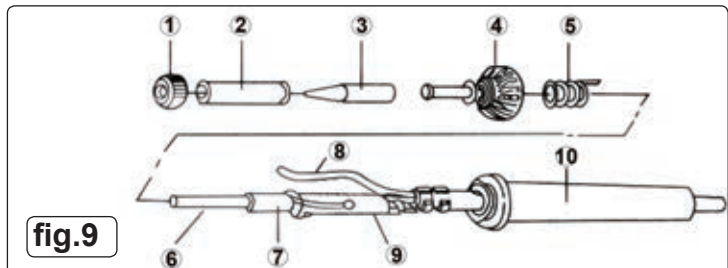

fig.9
7.2. ELEMENT REPLACEMENT (fig.9)